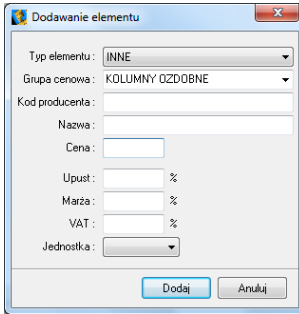

Fig. 315 – adding an item to the price-list
- adds a new item to the price-list (you need to complete the details) (Fig. 315);